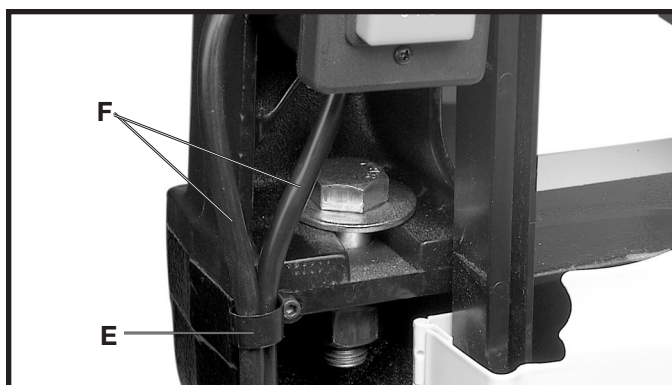

Fig. 37
4. Remove the screw and cable clamp (E) Fig. 37 from the lower arm of the band saw.
5. Insert the switch cord and power cord (F) Fig. 37 into the clamp (E) (removed in **STEP 4**), and fasten to the bandsaw.